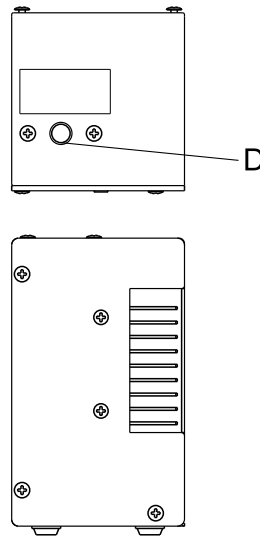

Figure 54 – TP10 flow meter
3. Fill the TPT10 thermometer well (D) with sterile distilled water (Figure 54).